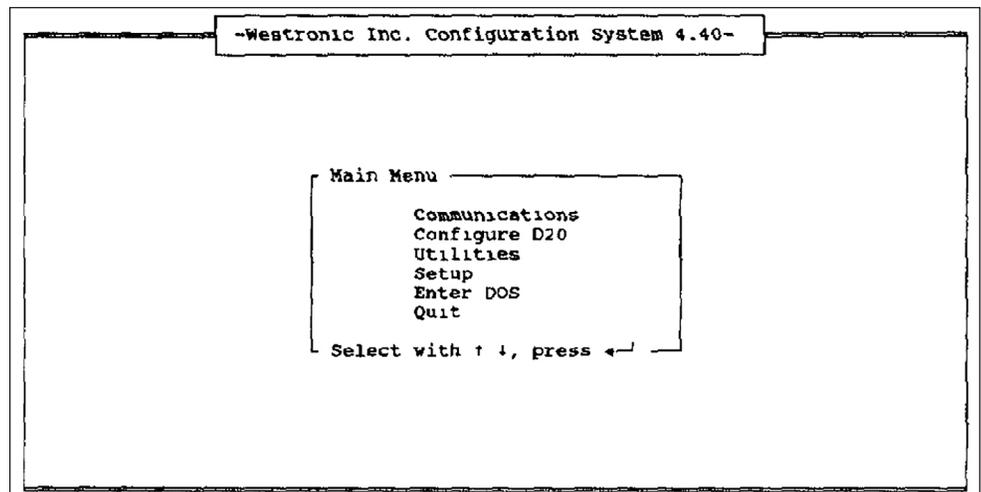

Figure 1. The *Main Menu* screen.
- (k) At the "C:\>" prompt, type "config" and press the <ENTER> key. The *CrossTalk* title screen will open briefly. The *Main Menu* screen will then open, as shown in Figure 1.